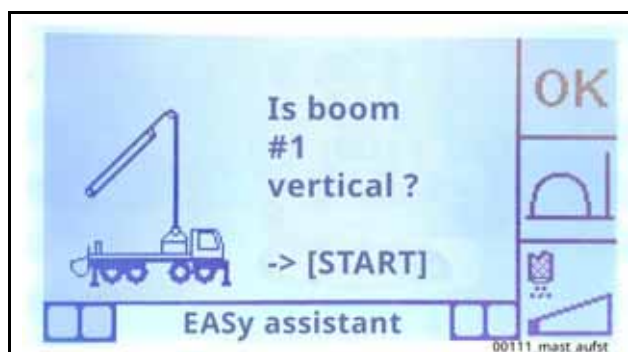

Fig. 436
- Confirm that the position has been reached on the control cabinet of the VECTOR control or on the remote control (**Fig. 436**).